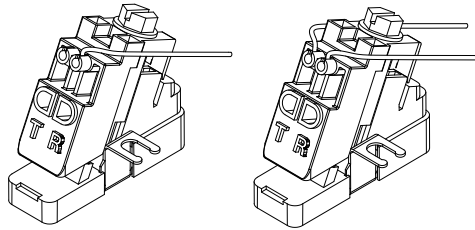

Figure 4
2. Upper Port Subscriber Connections (See Figure 4)
- 2d. Dress the wires through the strain relief slots to hold them in place (See Figure 4).